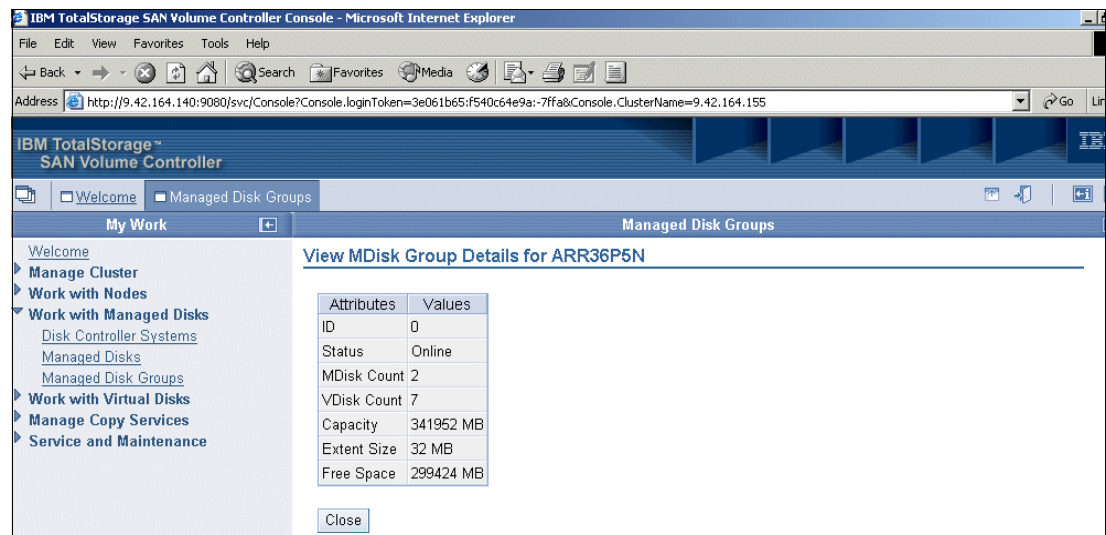

Figure 9-39 MDG details
2. On the View mDisk Group Details panel (Figure 9-39), you see more detailed information about the specified mDisk. Here you see information pertaining to the number of mDisks and vDisks as well as the capacity (both total and free space) within the MDG. When you finish viewing the details, click **Close** to return to the previous panel.